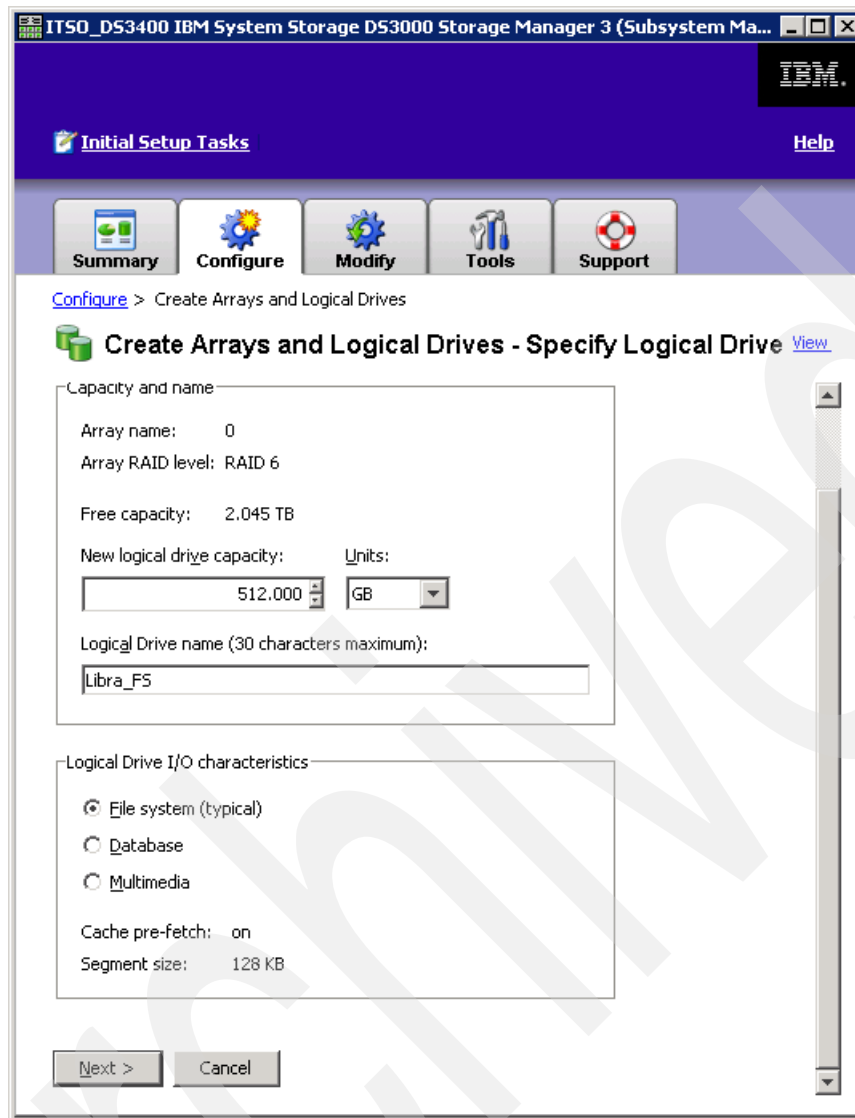

Figure 9-52 Create Logical Drives - Specify Logical Drive
5. After the array is defined, we then create a logical drive, as shown in Figure 9-52 on page 177.
The logical drive I/O access pattern can be very different, depending on the host server role. For example, file servers use the disk storage in a different way than database servers. For best performance, it is important to match the logical drive parameters, such as segment size and cache pre-fetch, to the actual I/O access pattern. Select one of the predefined options (file server, database server, or multimedia), as shown in Figure 9-52 on page 177.